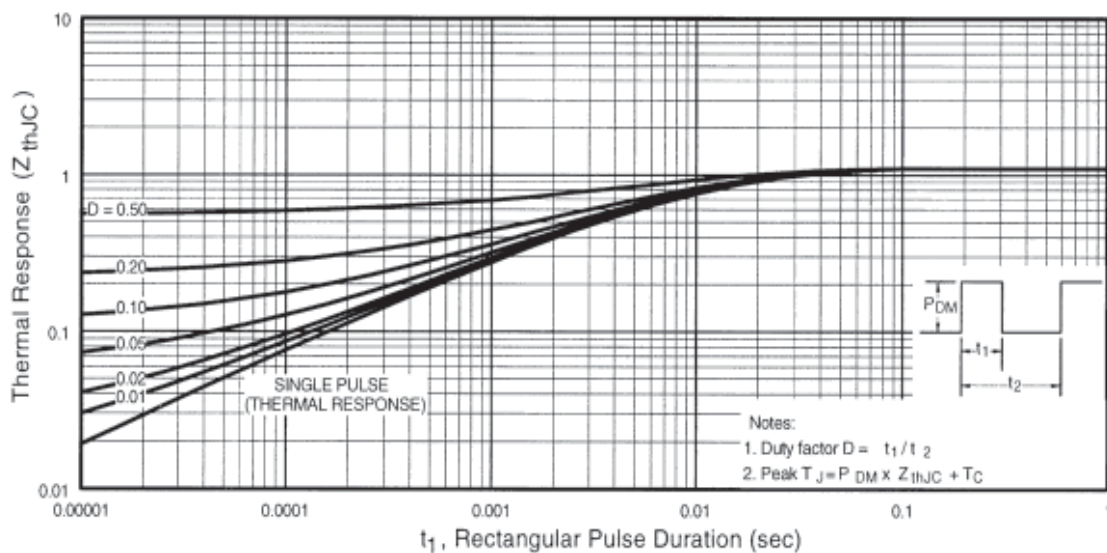

Fig 11. Maximum Effective Transient Thermal Impedance, Junction-to-Case
- ① Repetitive rating; pulse width limited by max. junction temperature. (See fig. 11)
- ② Starting $T_J = 25^\circ\text{C}$, $L = 1.9mH$